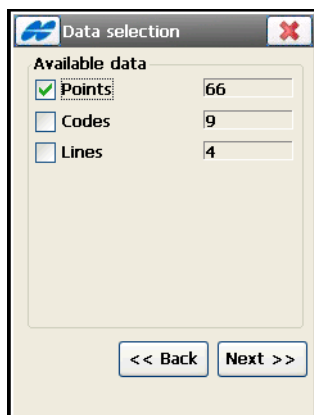

Figure 4-60. Data Selection for Topcon Text
- **Next** – opens the *Data selection* screen to select data in the job to export (Figure 4-60 on page 4-52).